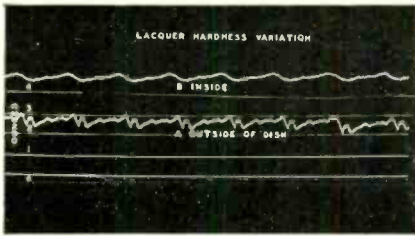
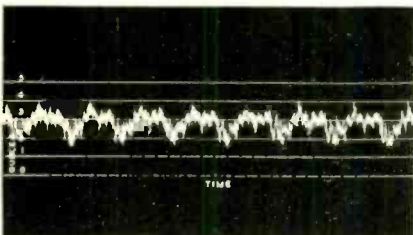

Fig. 12. Lacquer hardness variation of a 16-inch blank.
Fig. 13. Lacquer hardness variations obtained with a coated paper-base disc.
Measurements were made of the variation in lacquer hardness by using an advance ball with the gauge. In Fig. 12, (A) shows the cutting-force variation on the outside of a 16-inch disk, and (B) shows the results obtained near the center of the same disk. Part of the once-around variation may be due to warped disks, although every effort was made to reduce such an error by using a long arm between the recording head and its pivot bearings. Any unevenness of the surface would also cause some variation, for the advance ball could not be located closer than about 1/8 in. from the cutting tip. This unevenness probably accounts for some of the difference noted between the measurements made on the outside and on the inside of the disk, for the disk surfaces are noticeably more wavy near the edge. These variations are not too serious, however, as good recordings can be made with such disks. As an example of what extreme variations may be encountered in disks of the very inexpensive class, the results obtained with a paper-base disk are shown in Fig. 13.